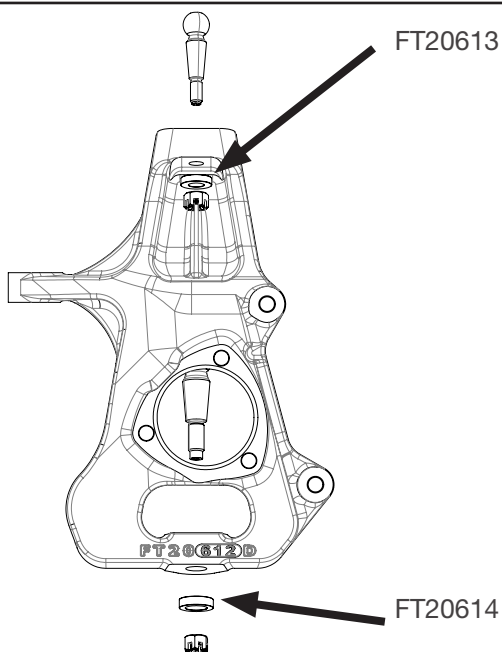

FIGURE 47 - STEP 33
33. Locate the steering knuckle FT20276D and FT20276P if you have the factory steel knuckles. If you have the factory aluminum knuckle locate FTS20612D and FTS20612P you need to install the FT20613 and FT20614 ball joint spacer under the nut when installing the knuckle. Attach the lower control arm to the knuckle using the stock hardware and torque to 70 ft-lbs. Attach the upper control arm to the new knuckle using the factory hardware and torque to 35 ft-lbs. **SEE FIGURE 47**